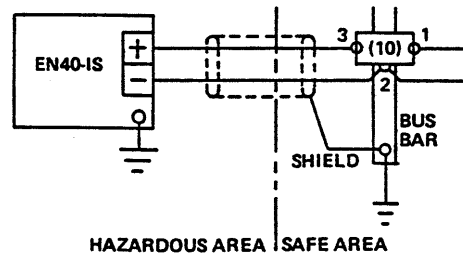

FIGURE 6
D. Electrical Connections — EN40-IS (See Fig. 6).
1. Connect Positive (+) Terminal of EN40-IS to Terminal 3 of Barrier 10 (See Fig. 6).
2. Connect Negative (—) Terminal of EN40-IS to Terminal 2 of Barrier 10 (See Fig. 6).
3. Connect cable shield to Bus Bar used to mount Intrinsic Safety Barriers (See Fig. 6).